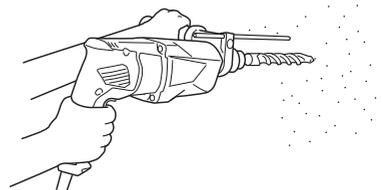

Fig. 7
- (1) Mount the drill bit.
- (2) Pull the trigger switch after applying the drill bit tip to the drilling position (**Fig. 7**).
- (3) Pushing the rotary hammer forcibly is not necessary at all. Pushing slightly so that drill dust comes out gradually is sufficient.
When the drill bit touches construction iron bar, the bit will stop immediately and the rotary hammer will react to revolve. Therefore grip the side handle and handle tightly as shown in Fig. 7.